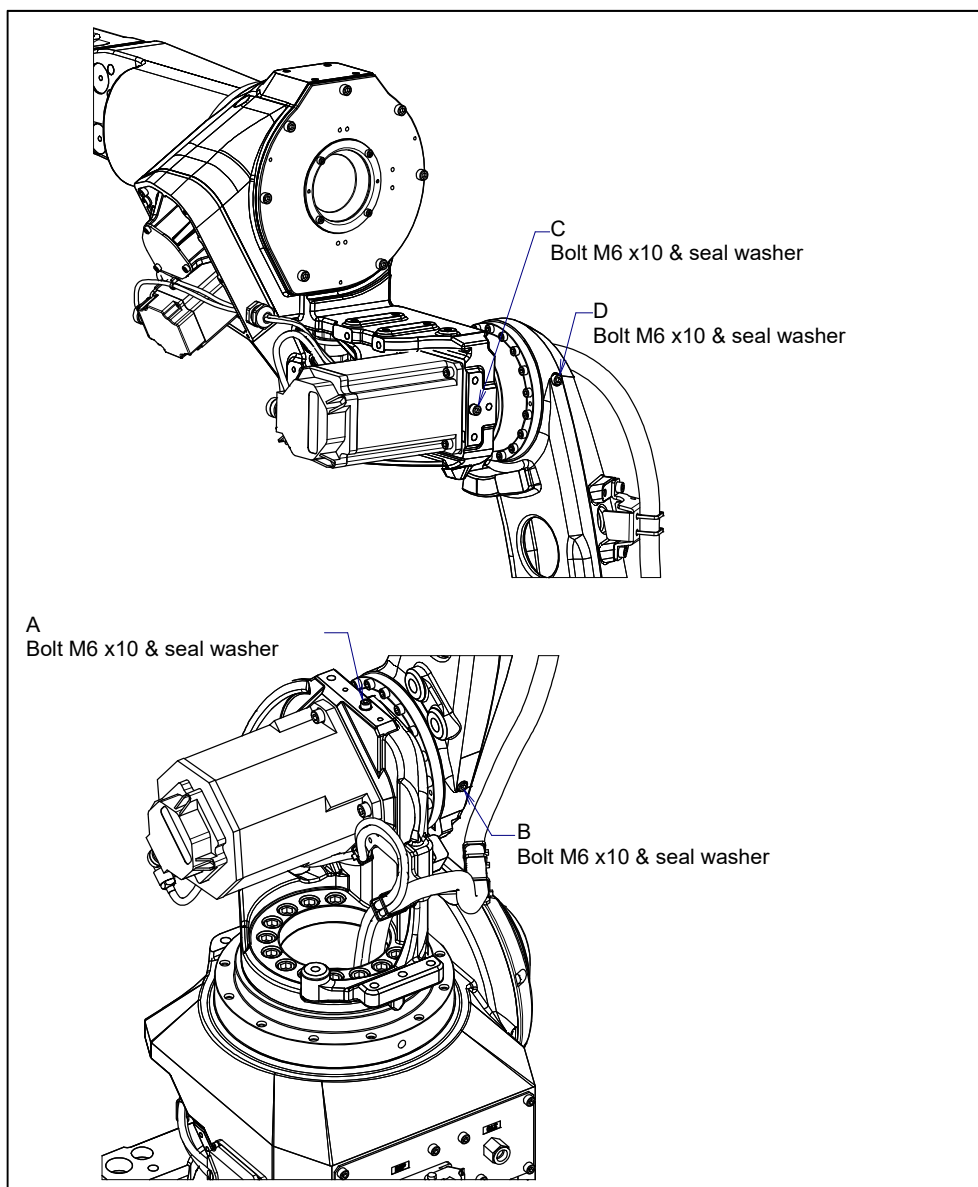

Fig. 7.3.2.3 (a) Oiling point of J2/J3-axis reducer
- 2 According to Fig. 7.3.2.3 (b) and (c), install the attached adapter (A290-7228-X327) on the oil inlet and the ventilator hole. Then install the oil injection nipple (A05B-1224-K006) to the ventilator hole.
- 3 Confirm the valve of the oil injection nipple with valve is open, according to Fig. 7.3.2.3 (b) and (c), supply oil by using oil injection gun (A05B-1221-K005). If oil comes out from the upper side ventilator hole, stop supplying oil, close the valve of the oil injection nipple, then remove the oil gun.